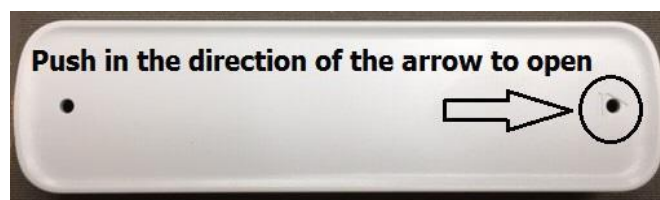

Figure 17
1. **Open the sensor by pushing the cover in the direction of the arrow, the cover will slide about ¼", you will then be able to remove the cover. See figure 17.**